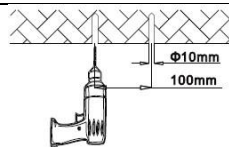

Figure 3
1. Using the bracket (purchased separately) as a guide, mark the mounting holes on the surface using a marker, then drill guide holes for the mounting screws (Figure 3).